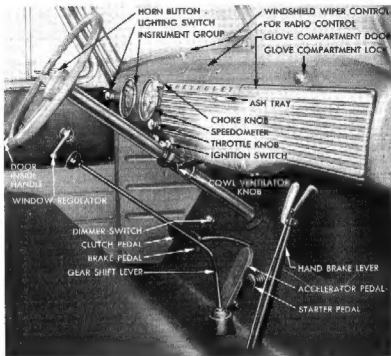
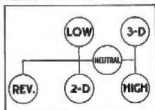
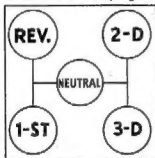

Fig. 2—Controls and Instruments—1-1½ and 2 Ton
Fig. 11—Four Speed Transmission Shifting Diagram
Fig. 12—Three-Speed Transmission Shifting Diagram
Parking Brake. On all 1 Ton (except Forward Control), 1½ and 2 Ton, except C.O.E., the parking brake is hand operated with lever extending up through floor to the right of the gear shift lever with the grip just below the instrument panel (fig. 2). Hand brake lever on C.O.E. is to the left of the gearshift lever. Pulling this lever back applies the rear wheel brakes on 1 ton
Gearshift Lever (4-speed Synchro-mesh Transmission) extends to the left and back from transmission cover dome at center of floor (fig. 2). This lever is used to shift the transmission gears to the desired position. Figure 11 shows the lever knob positions when the transmission is in neutral, reverse and the four forward speeds. To shift the transmission into any of the forward speeds, disengage the clutch, move the lever across neutral to right or left as desired, and then forward or back into gear.
Figure 12 shows the gearshift pattern in neutral, reverse and three forward speeds. To shift into any gear position, disengage the clutch, move the shift lever up
2. Move gearshift lever into low gear position. (If 4-speed transmission see Figure 11, or if 3-speed transmission see Figure 12.)
1. Depress clutch pedal and release accelerator at the same time. Move the shift lever into neutral and then to the next higher gear. See shifting diagrams, Figures 11 and 12.
2. Move shift lever across neutral to left, against the spring tension as far as it will go. Move lever back into reverse (fig. 11).
2. Raise shift lever up across neutral and forward into reverse position. (fig. 12).